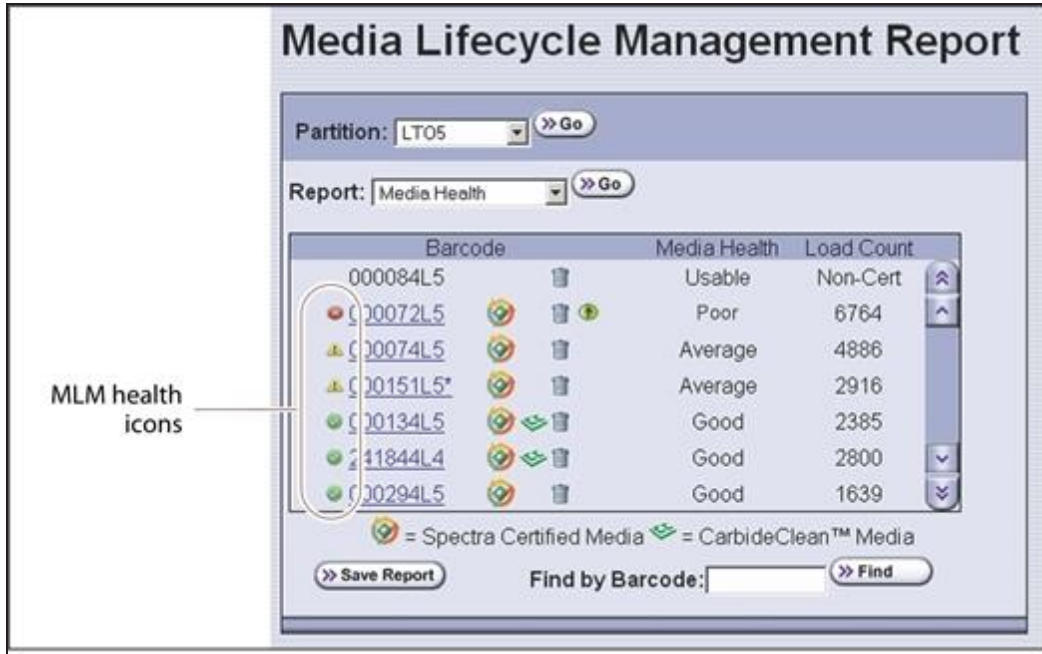

Figure 182 Use the health icons on the Media Lifecycle Management Report screen to quickly assess media health.
4. Click **Previous** to return to the main Media Lifecycle Management Report screen (Figure 182 on page 338).
Report Selected Data	Only the fields displayed in the report that you selected on the Media Lifecycle Management Report screen (Figure 182 on page 338). Note: The headings in the saved report reflect the fields displayed in the report you selected in the Media Lifecycle Management Report screen.